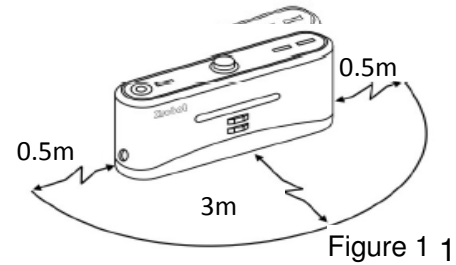

Figure 1 1
2. No obstacle or hollow areas 3m away from the Docking Station in the front and 0.5m on the right and left. (Refer to Figure 1)